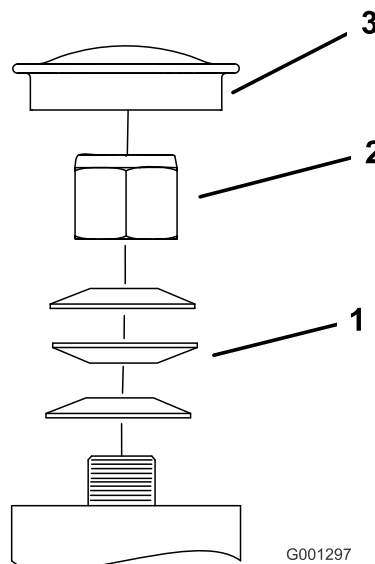

Figure 52
3. Remove the dust cap from caster and tighten lock nut (Figure 52).
4. Tighten the locknut until the spring washers are flat and then back off a 1/4 turn to properly set the pre-load on the bearings (Figure 52).
Important: Make sure the spring washers are installed correctly as shown in Figure 52.
5. Install the dust cap (Figure 52).